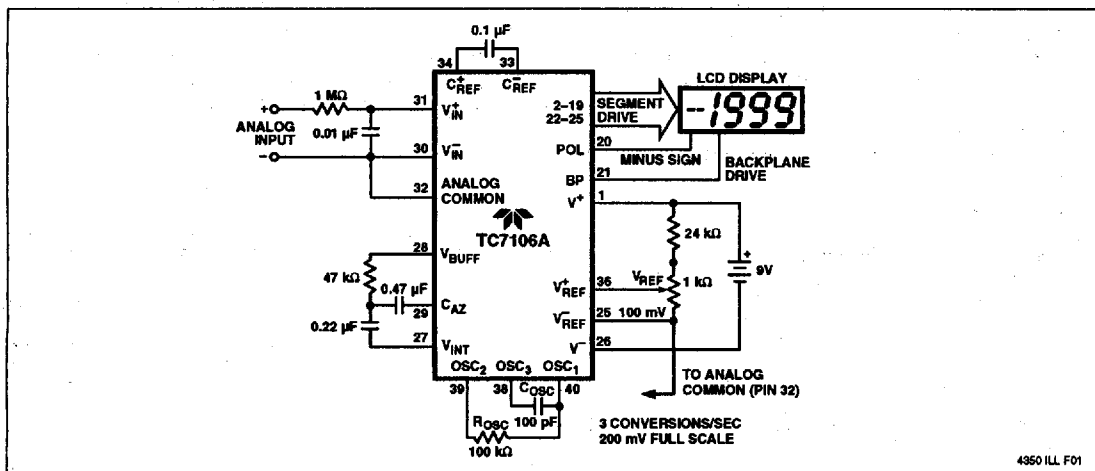
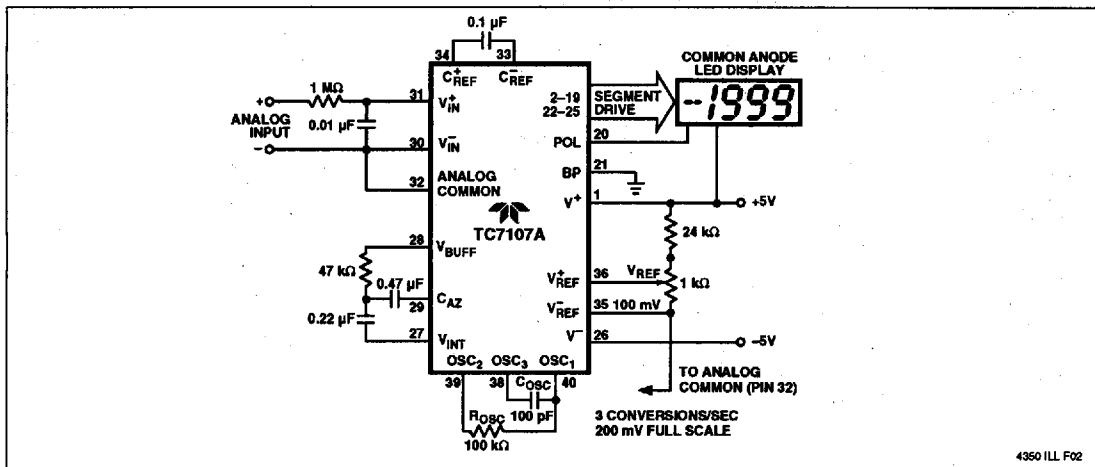

Figure 1 TC7106A Typical Operating Circuit
Figure 2 TC7107A Typical Operating Circuit
- Unless otherwise noted, specifications apply to both the TC7106A and TC7107A at T_A = 25°, f_{LOCK} = 48 kHz. TC7106A is tested in the circuit of Figure 1. TC7107A is tested in the circuit of Figure 2.